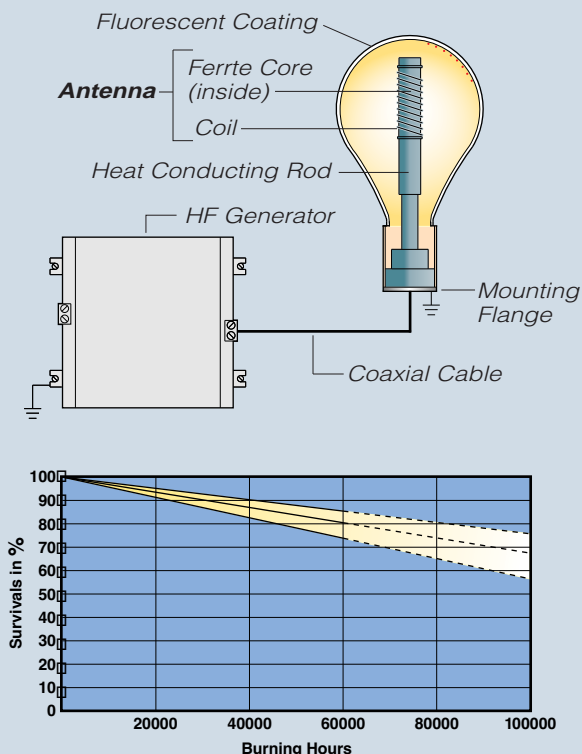

Figure 1: Life expectancy of Induction Lamp system; average failure rate vs burning hours.
- ① **Ultra-long lamp life;** < 20% failure at 60,000 hours, and < 50% failure at 100,000 hours. See figure 1.